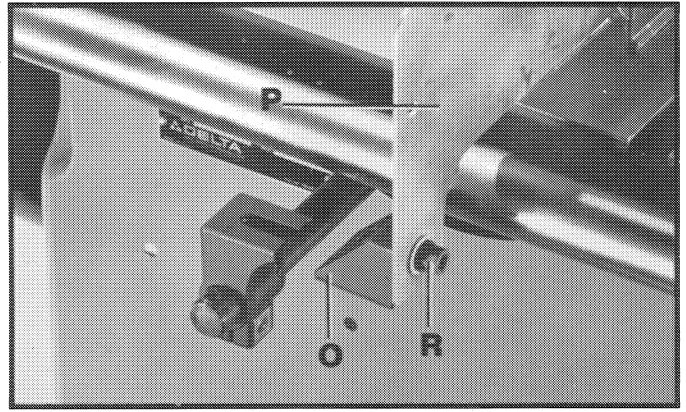
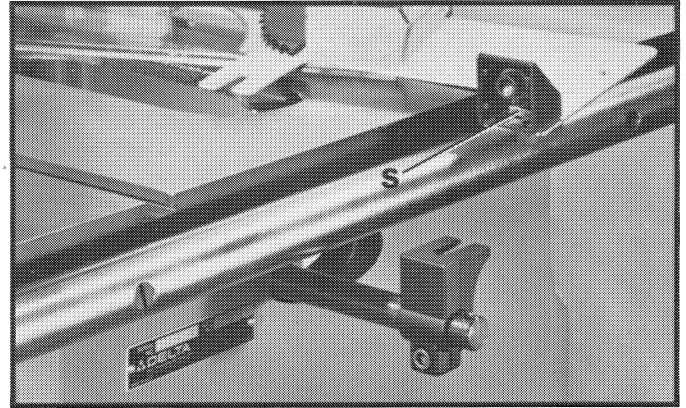

Fig. 10
Fig. 11
10. Fasten bracket (O) Fig. 10, to rear of splitter (P), as shown, using the 5/8" long allen screw, flat washer and lockwasher (R) Fig. 10, and nut (S) Fig. 11. Do not completely tighten screw (R) Fig. 10, as adjustment will be necessary later.